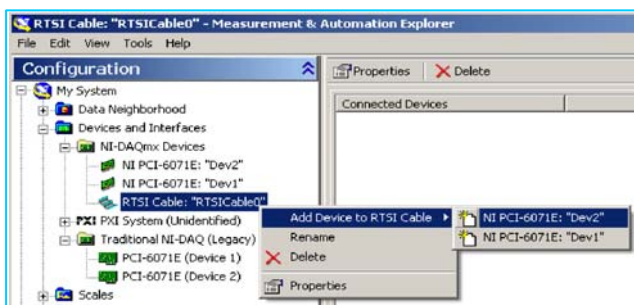
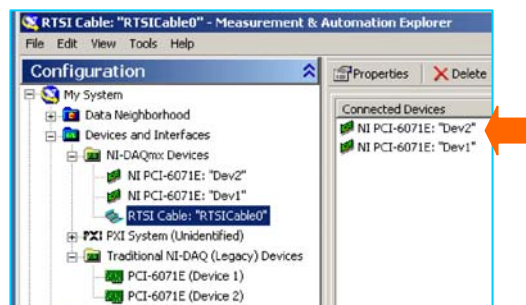

Figure. 1-16
Figure. 1-17
4. Right click [RTSI cable”RTSI Cable0”], Select [Add Devices to RTSI Cable], then click [NI PC-6071E “Dev2”] and [NI PCI-6071E “Dev1”]. (Figure. 1-16) [NI PCI-6071E: “Dev2”] and [NI-PCI-6071E: “Dev1”] appears in the [Connected Devices]. (Figure. 1-17)